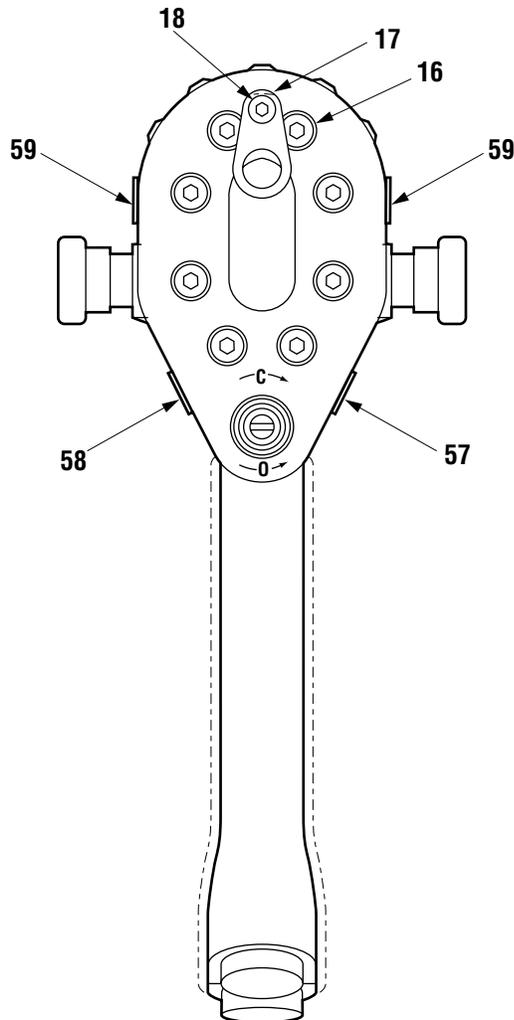

Figure 6
Motor (See Figures 6, 7, and 9)
1. Remove reversing spool (19) by loosening and removing cap (24) on left side of tool and pulling spool (19) out right side of tool.
Note: For tool orientation (left and right) grip tool as you would use it and view tool looking at motor cap (6). See Figure 6.
Motor (See Figures 6, 7 and 9)